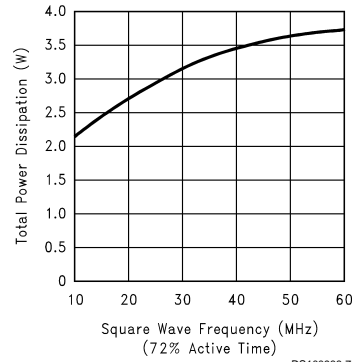

FIGURE 6. Power Dissipation vs Frequency
*Figure 6* shows the maximum power dissipation of the LM2439 vs Frequency when all three channels of the device are driving an 8 pF load with a 40 Vp-p alternating one pixel on, one pixel off signal. The graph assumes a 72% active time (device operating at the specified frequency) which is typical in a monitor application. The other 28% of the time the device is assumed to be sitting at the black level (65V in this case). This graph gives the designer the information needed to determine the heat sink requirement for the application. The designer should note that if the load capacitance is increased the AC component of the total power dissipation will also increase.
If the maximum expected ambient temperature is 70°C and the maximum power dissipation is 3.4W (from *Figure 6*, 40 MHz bandwidth) then a maximum heat sink thermal resistance can be calculated: